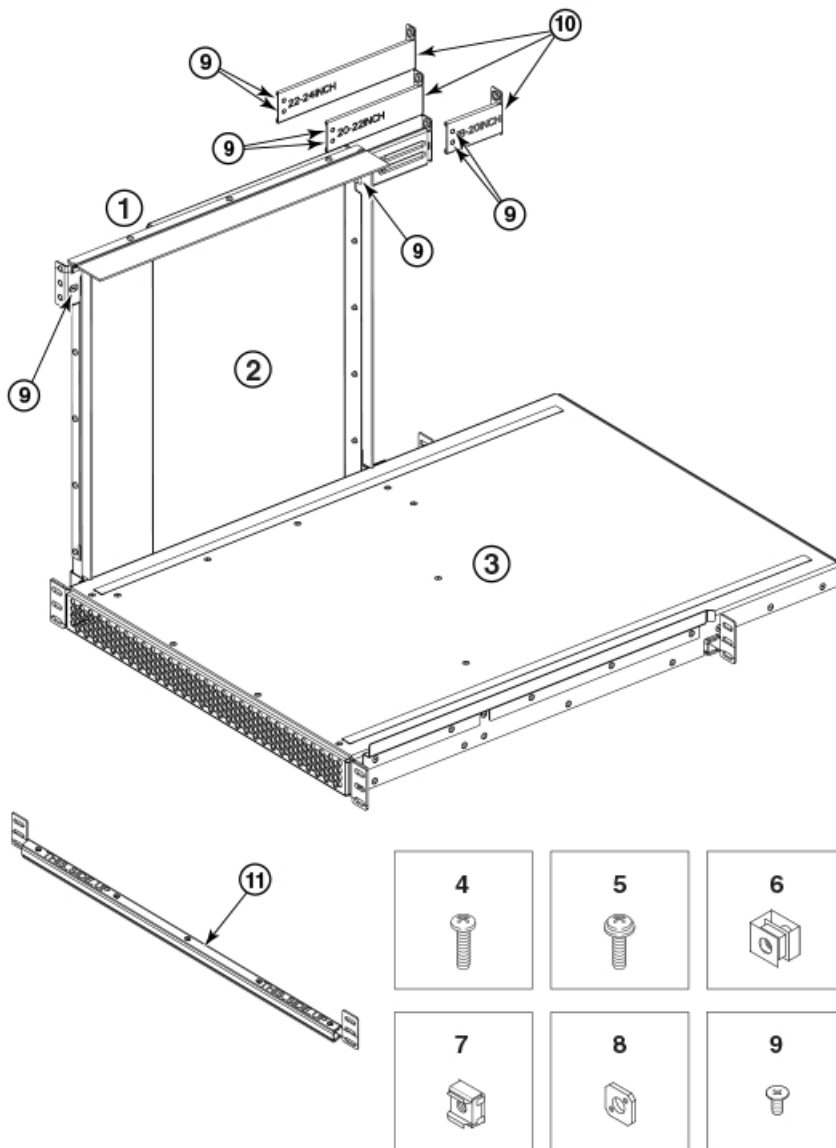
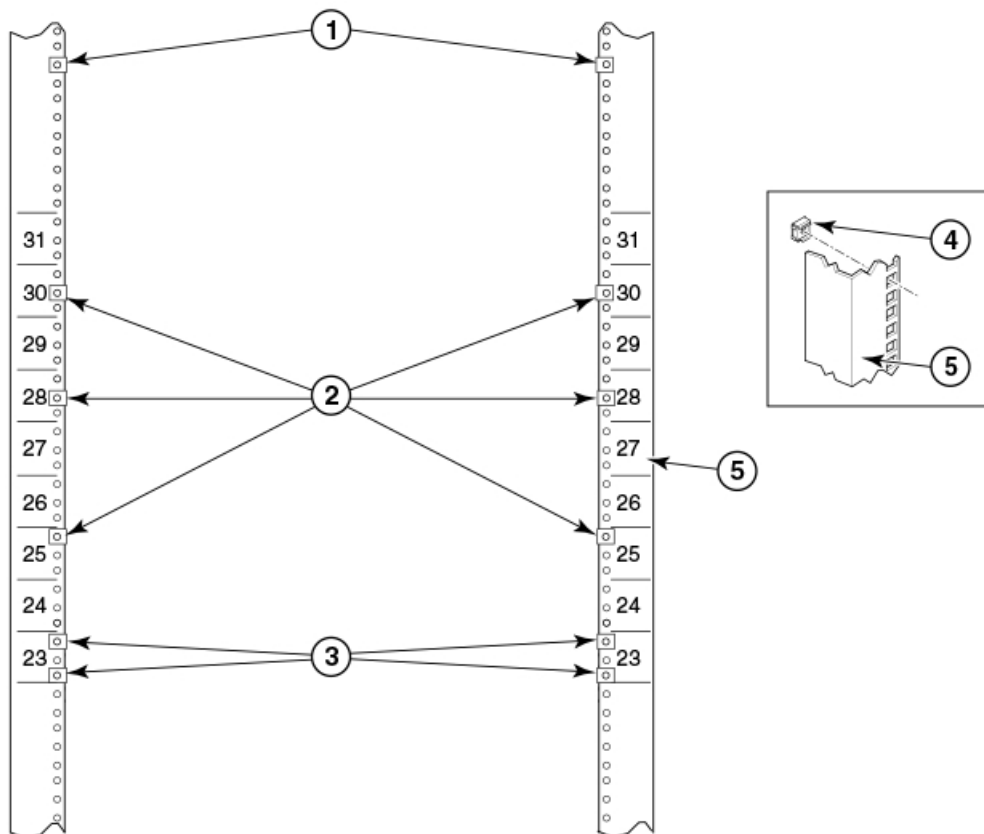

Figure 3. Airflow Diversion and Port-Side Exhaust Kit assembly for 18-24 in. (45.72 to 60.96 cm) racks
Figure 4. Clip and retainer nut locations on rack rails
2. Install clip nuts (8 in Figure 3 on page 20) or retainer nuts (9 in Figure 3 on page 20) in rack rail locations shown in the following figure. These nuts will secure the 10-32 that mount the rack kit's shelf and the device to the rack. For rails with round holes, use clip nuts. For rails with square holes, use retainer nuts. Note that the following figure shows relative positions for these nuts in the rack rails to mount the shelf and device. You may mount the shelf and device in 9U of rack space higher or lower in the rack than shown.
3. Install the shelf saddle (refer to Figure 3 on page 20) to the nonport side of the rack. Install the saddle in the same vertical location as where the shelf installs on the port side of the rack. In using the previous figure as example, if the shelf is installed in location 23 on the port side, install the saddle in location 23 on the nonport side. Ensure that the words "THIS SIDE UP" on the saddle face towards the port side of the rack (see the following figure).
Secure the saddle to the rack using four 10-32 screws with washers (refer to Figure 3 on page 20), two screws on each side of the saddle. Tighten the screws according to specifications under "Torque requirements" on page 21.
**Note:** For rails with round holes, use the clip nuts (refer to Figure 3 on page 20) on the rails for securing 10-32 screws. For rails with square holes, use the retainer nuts (see Figure 3 on page 20). Also refer to Figure 4 on page 21.
4. Place the shelf (refer to the following figure) on the saddle then secure it to the rack rails using four 10-32 screws with washers (refer to Figure 3 on page 20). Tighten the screws according to specifications under "Torque requirements" on page 21.
- a. Determine the size of the top rail inner bracket that you will need to install on the top rail so that the top rail will fit on the inside of the rack rails. Remove the appropriate bracket from the accessory kit. Note that the accessory kit contains three sizes, depending the depth of your equipment rack (refer to Figure 3 on page 20).
- b. Secure the top rail inner bracket to the top rail assembly with two 6-32 screws (see Figure 3 on page 20). Tighten the screws according to specifications under “Torque requirements” on page 21.
**For rails with round holes**, use two 10-32 screws with washers (refer to Figure 3 on page 20) on each end of the top rail assembly. Tighten the screws according to specifications under “Torque requirements” on page 21.
**For rails with square holes**, use the two standard 10-32 screws with blue Loctite on the threads and alignment washers (refer to Figure 3 on page 20) on each end of the top rail assembly. Tighten the screws according to specifications under “Torque requirements” on page 21.
**Note:** For rails with round holes, use the clip nuts on the front rails for securing 10-32 screws. For rails with square holes, use the retainer nuts (refer to Figure 3 on page 20). Also refer to Figure 4 on page 21.